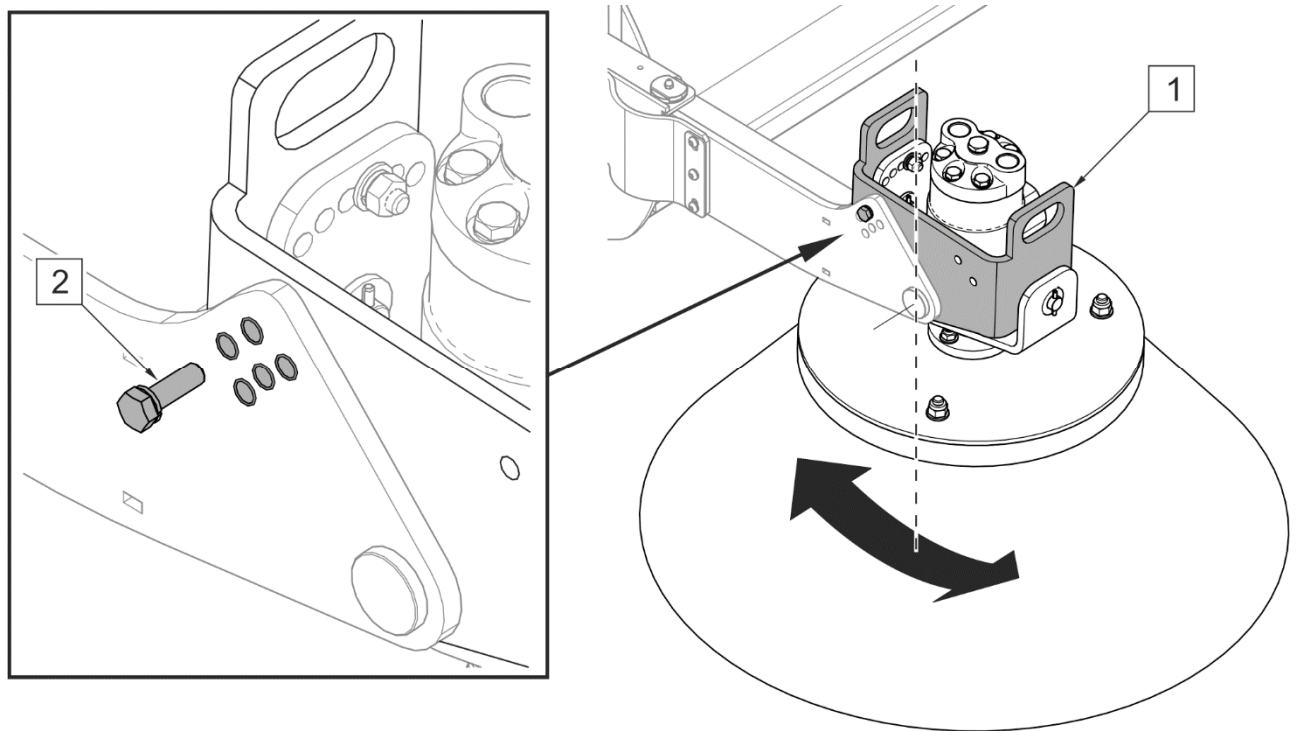

FIGURE 5.4 Adjustment of longitudinal tilt
- Adjustment of longitudinal tilt (FIGURE 5.4).
(1) - brush head bracket, (2) - longitudinal tilt adjusting bolt
Adjustment of longitudinal tilt of side brush (FIGURE 5.4) involves changing the position of adjusting bolt (2) in bracket holes.